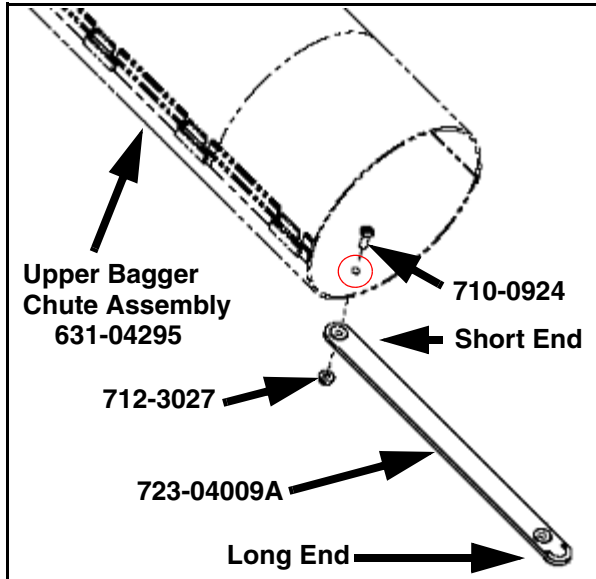
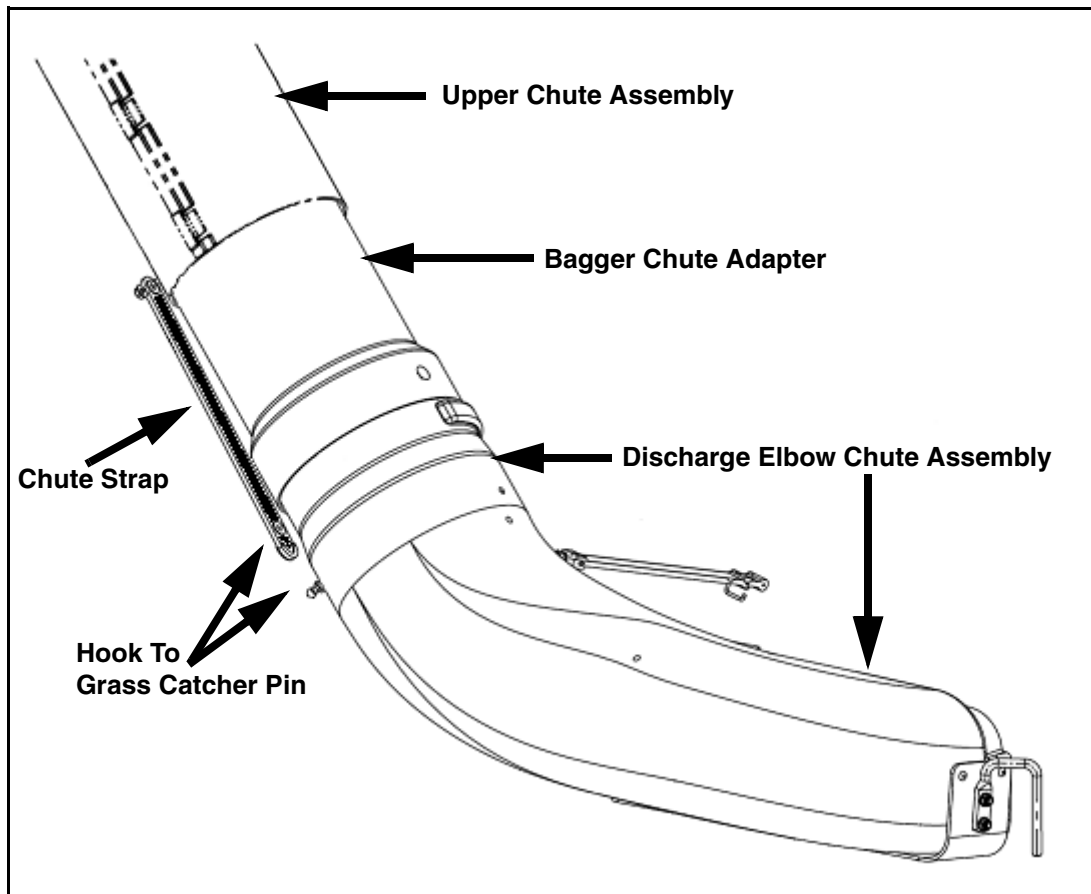

FIGURE 9
FIGURE 11
11. Install Ref. #1 (710-0924) 1/4-20 x .75" machine screw through the bottom side hole and from the inside out of the upper bagger chute assembly as shown in Figure 9.
12. Place the short end of Ref. #5 (723-04009A) chute strap over the 1/4-20 x .75" machine screw on the outside of the upper bagger chute assembly and secure with Ref. #4 (712-3027) 1/4-20 flange lock nut. See Figure 9.
15. Secure the upper chute assembly to the discharge elbow chute assembly by hooking the long end of the chute strap installed in step 12 (Figure 9) to the grass catcher pin installed in step 13. See Figure 11.